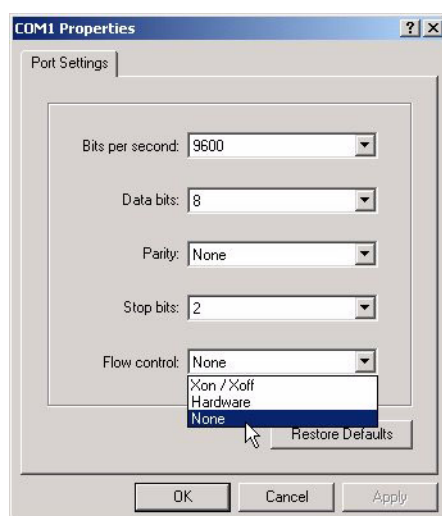

Figure 12-14: Port configuration for the Sequencer
3. Click the Configure Port button. The port configuration dialog appears as shown in Figure 12-14.